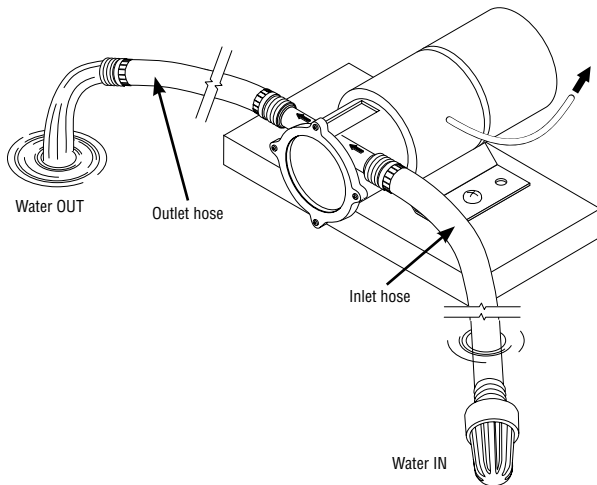

Figure 4 - Typical Operation
- MOTOR must stay dry. See Figure 4.